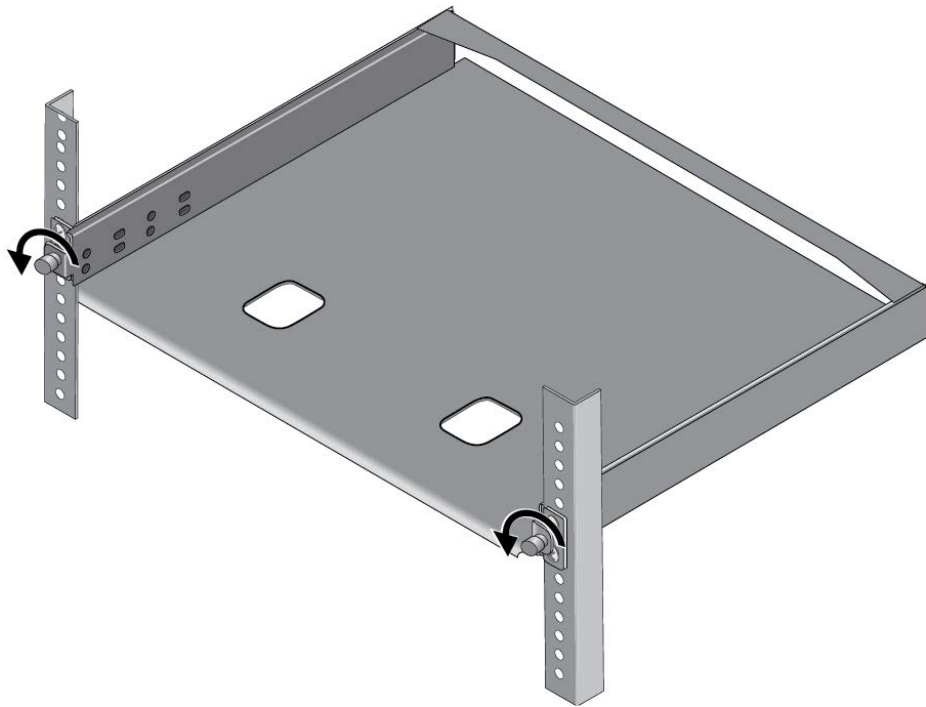

Figure 39. Loosening the Two Thumbscrews on the Front of the RKMT-J15 Bracket
2. Loosen the two thumbscrews on the front of the bracket. Refer to Figure 39.